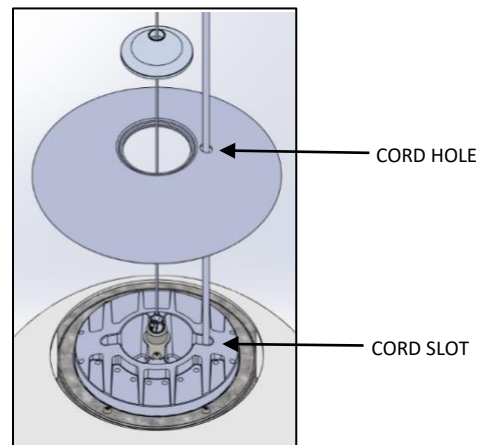

FIG. 18 – FITTER AND TOP
9. Make sure that ACRYLIC SHADE is properly seated onto the INSERT COLLAR and then set the TOP COVER and FITTER back onto the THREADED NIPPLE. Make sure the CORD HOLE in TOP COVER lines up with the CORD SLOT in the REFLECTOR SUBASSEMBLY and tighten down FITTER onto THREADED NIPPLE as shown below in FIG. 18.